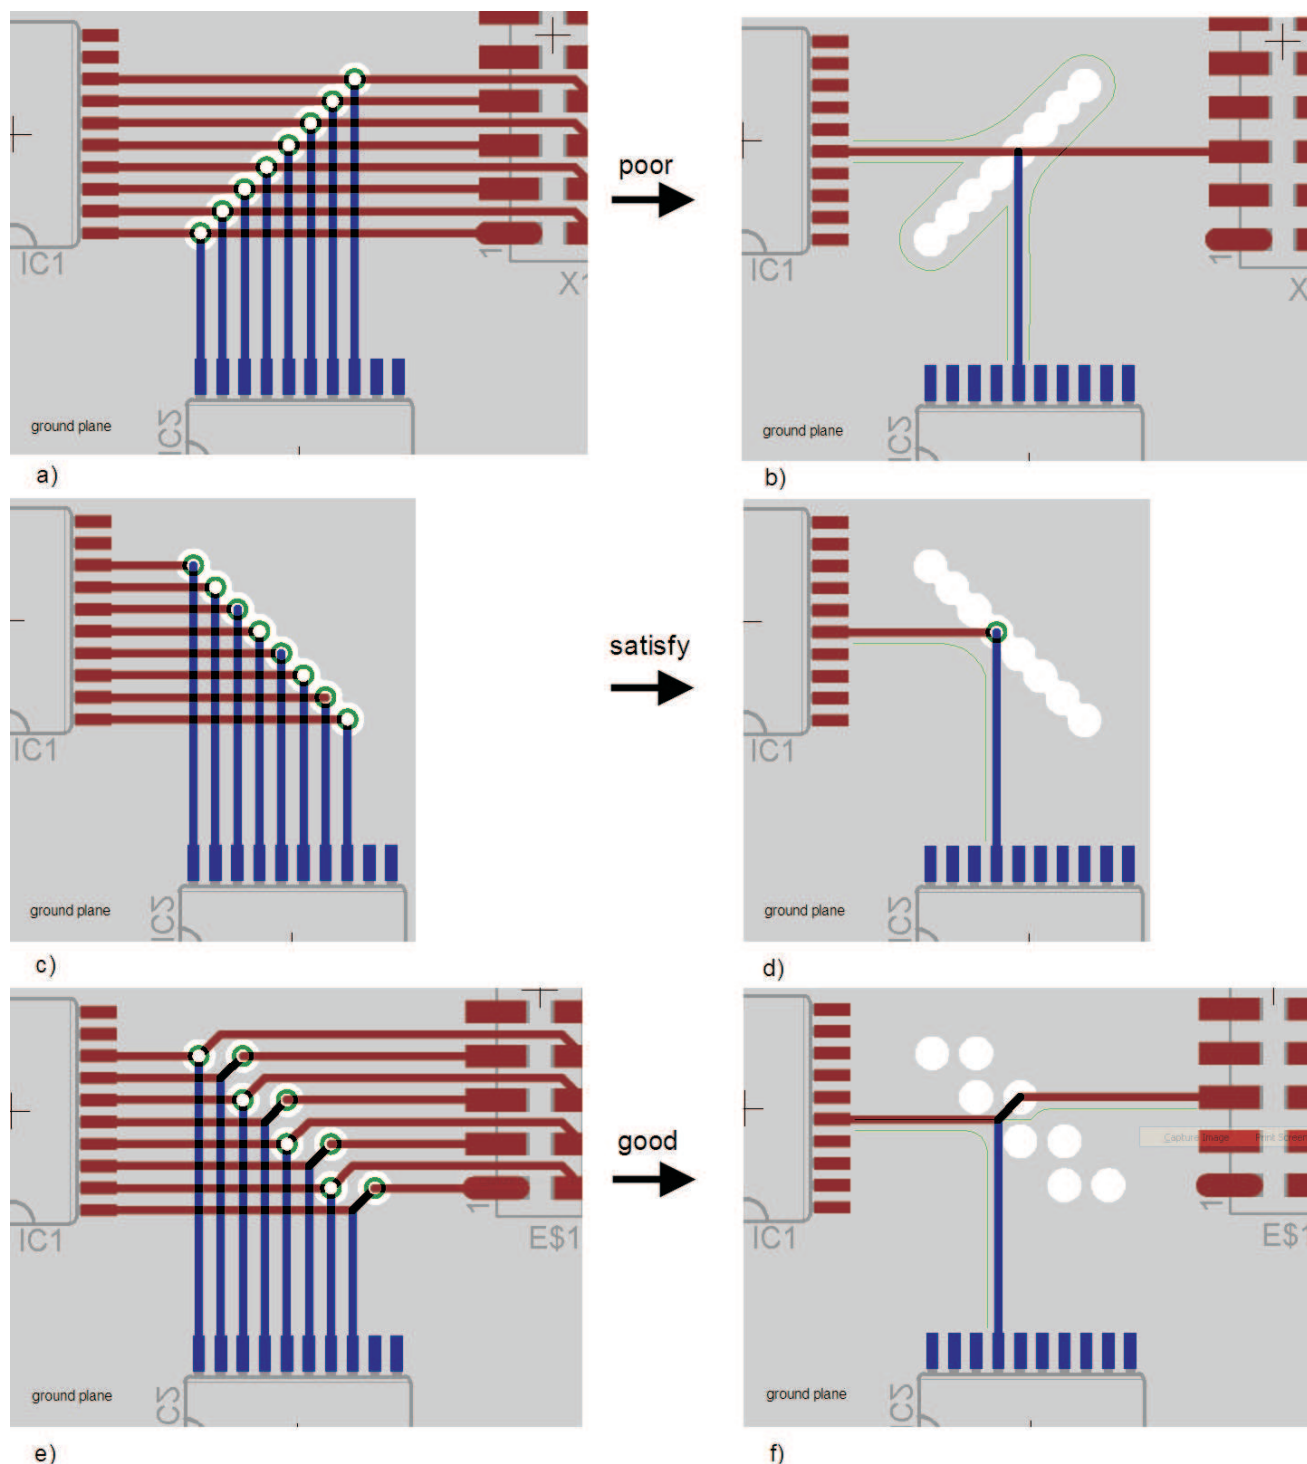

Figure 15. Poor and Good Via Placement
Figure 15 shows, how good via placement avoids loop areas, if there is need for multiple vias.
Figure 15: Because of wrong via placement, especially with bus signals, slots in the ground plane can arise. Further, the return current can create a loop area when placing the vias in the wrong direction. Three different routings are shown on the left. On the right, some traces are masked out to see how the return current (green trace) will flow.
- Do not create slots, for example in the ground plane, by using closely placed vias (Figure 15).